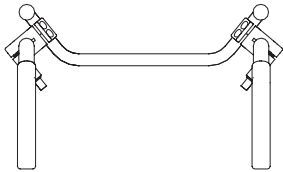

Figure 35
1. See Figure 35 for the correct location to mount the height adjustable clamp-on push handles.